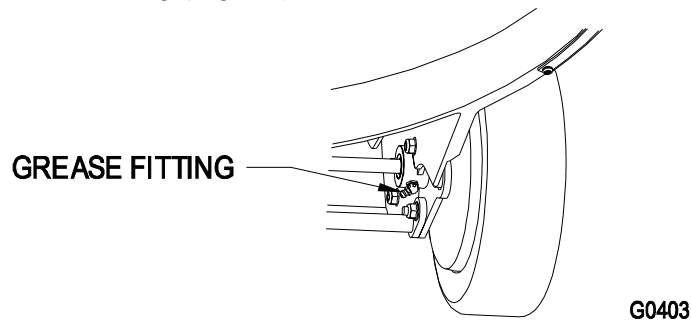

FIGURE 23
2. Locate the grease fitting on the underside of the mower deck. Wipe the grease fittings with a clean rag (Fig. 23).
3. Install a grease gun onto the fitting and gently apply 2 or 3 pumps of #2 multi-purpose lithium base grease (Fig. 23).